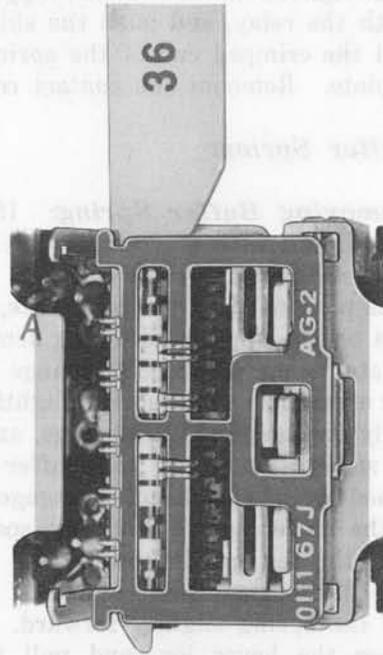

Fig. 7—Detail 36 Lifter in Place
4.11 On the top left side of the relay, with the taper of detail 36 lifter facing to the left, place the lifter behind the card inserting it between the left movable twin contact springs and the fixed single contact springs as shown in Fig. 7. Push